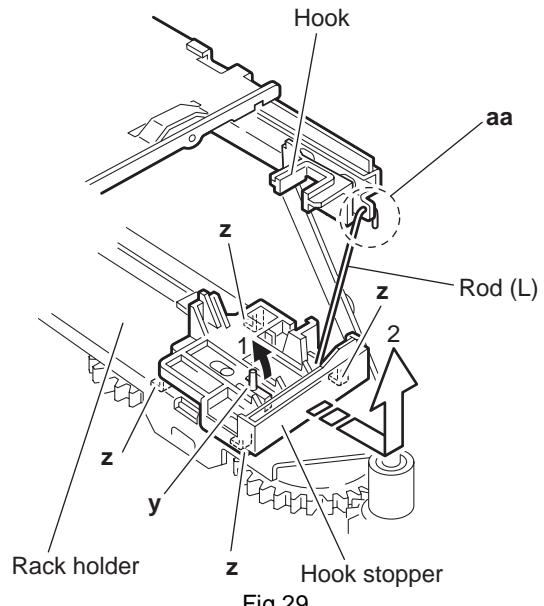

Fig.29
- (3) Move the hook stopper in the direction of the arrow 2 while pushing the tab y of the hook stopper to unlock it in the direction of the arrow 1 and release four joints z to detach from the rack holder. (See Fig.29.)
- (4) Release the rod from part aa. (See Fig.29.)